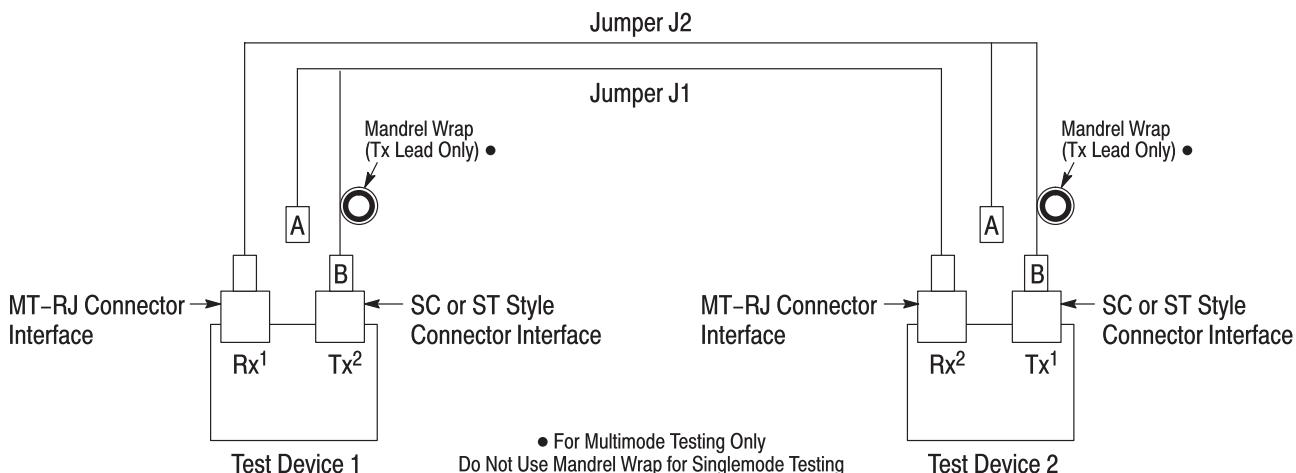

Figure 6
A. Setting the Reference Values (Figure 6)